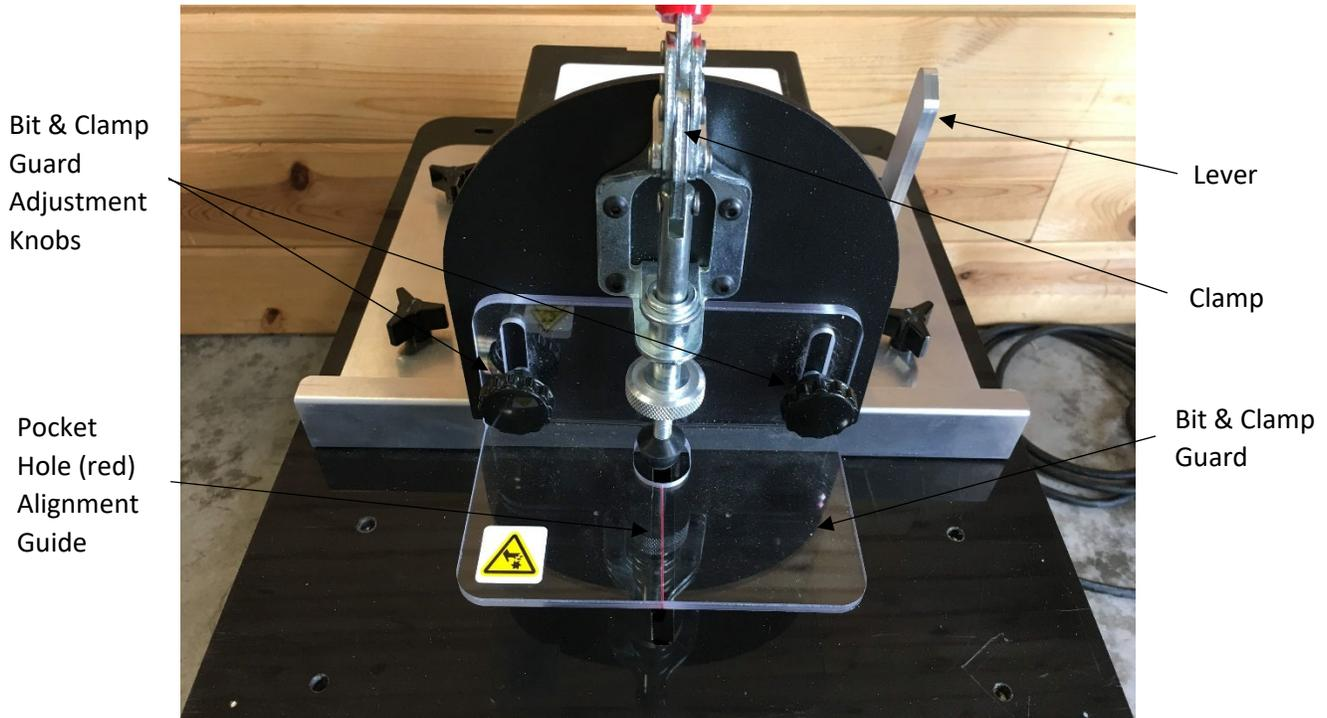

Figure 9: Tabletop Components
7. Adjust Bit & Clamp Guard (Figure 9) over test piece, approximately  $\frac{1}{4}$ ". Loosen the Bit & Clamp Guard Adjustment Knobs (Figure 9) and adjust Bit & Clamp Guard to allow insertion and removal of material, but so as to NOT allow fingers or hands under or behind the Bit & Clamp Guard during operation.
NOTE: The “Pocket Hole (red) Alignment Guide” (Figure 9) indicates location of pocket to be cut.
**Do not process pieces that are so small that your hand must be behind or under the Bit & Clamp Guard (Pg. 14, Figure 9).** Safety Speed Screw Pocket Machines are not recommended for work pieces that are shorter than the clamp guard. Rails and similarly narrow stock can be positioned using the Perpendicular Guide Accessory (Part# SP45) as long as they extend beyond the clamp guard and have a minimum of 3/8" on each side (offset) of the pocket.